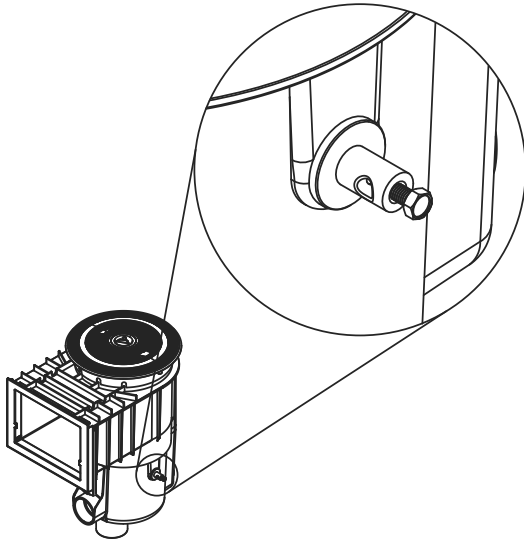

Figure 5
- Bonding can be performed by utilizing the integrated stainless steel bonding lug (optional upgrade) located on the outside of the QuikSkim (Figure 5). The bonding lug is molded into the body and connects to a corrosion resistant 316 stainless steel bonding plate (Figure 6b) located on the inside of the skimmer. However, in the event that this plate should ever become corroded, it can easily be replaced by loosening the stainless steel locking nut (Figure 6a), removing the old bonding plate, adding a new bonding plate and resealing the locking nut.